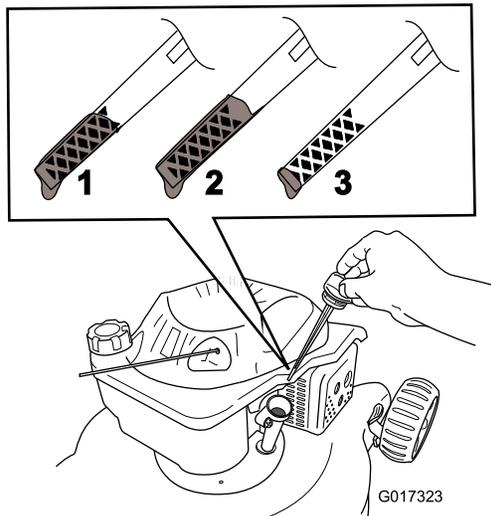

Figure 12
2. Remove the dipstick (Figure 12).
5. Read the oil level on the dipstick (Figure 12).